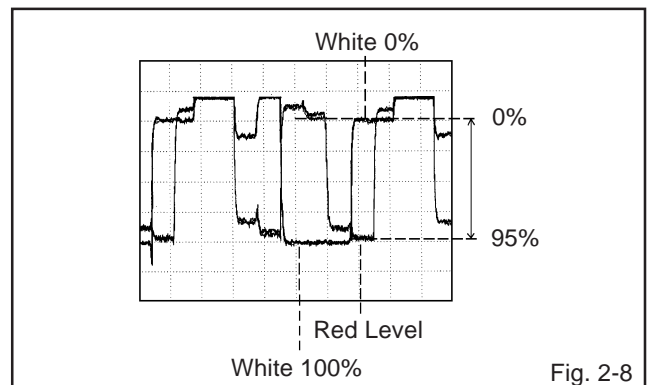

Fig. 2-8
7. Press the PLAY or STOP button on the remote control until the red color level is adjusted to 95% of the white level. (**Refer to Fig. 2-8**)